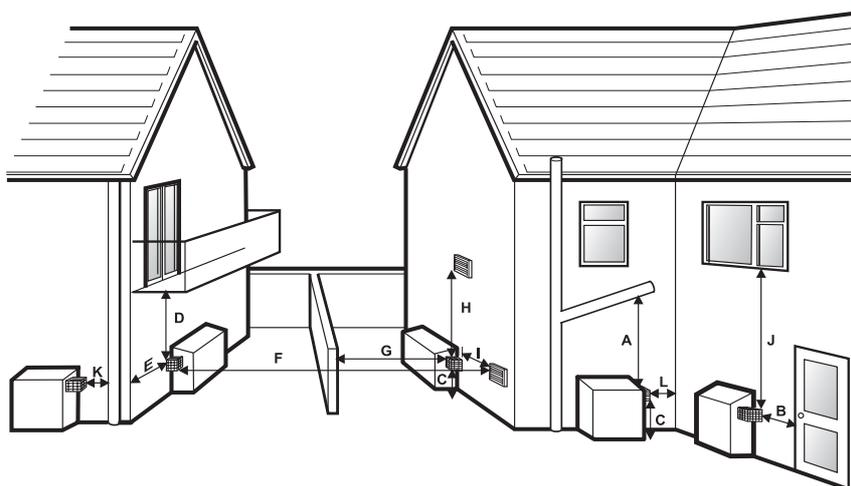

Fig. 11 - Flue terminal positions
- 3 The Module must be positioned such that the required clearances from the low level flue outlet, as shown in Fig. 11, are achieved.